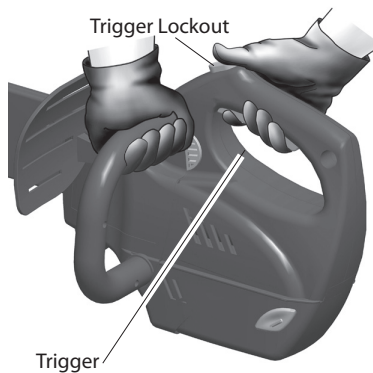

Figure 13 - Trigger Lockout and Trigger Location
3. Use both hands to grip saw. Always use left hand to grip front handle and right hand to grip rear handle. Use firm grip. Thumbs and fingers must wrap around saw handles (see Figure 13).
5. When ready to make a cut, press in trigger lockout with right thumb and squeeze trigger (see Figure 13). This will turn saw on. Releasing trigger will turn saw off. Always turn saw on before contacting saw chain with log.